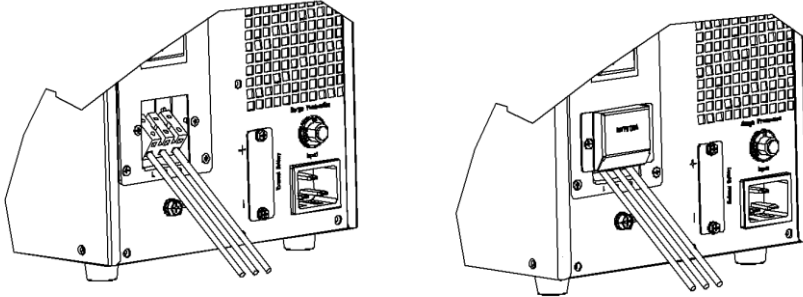

Figure 4 Output terminal of 3K
**Except from using socket as output, Champ+3K/3KL has output terminal as well for load which current is over 10A. As shown in Figure 4:*